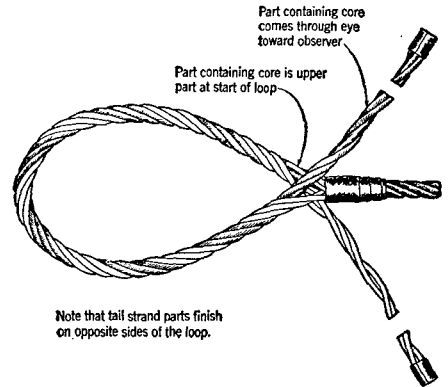

Fig. 4
**4.03** Wrap each part around the loop in such a manner that the strands will take the original form of the rope with each turn. Continue until the eye is completely formed, as shown in Fig. 4.
**4.04** In a correctly formed eye, with the proper number of pitches, the tail strands will finish on opposite sides of the loop. In core-type rope, if the core was in the upper part of the rope at the start, the core will be on the opposite side of the rope towards the observer, as shown in Fig. 4, in the finished eye.